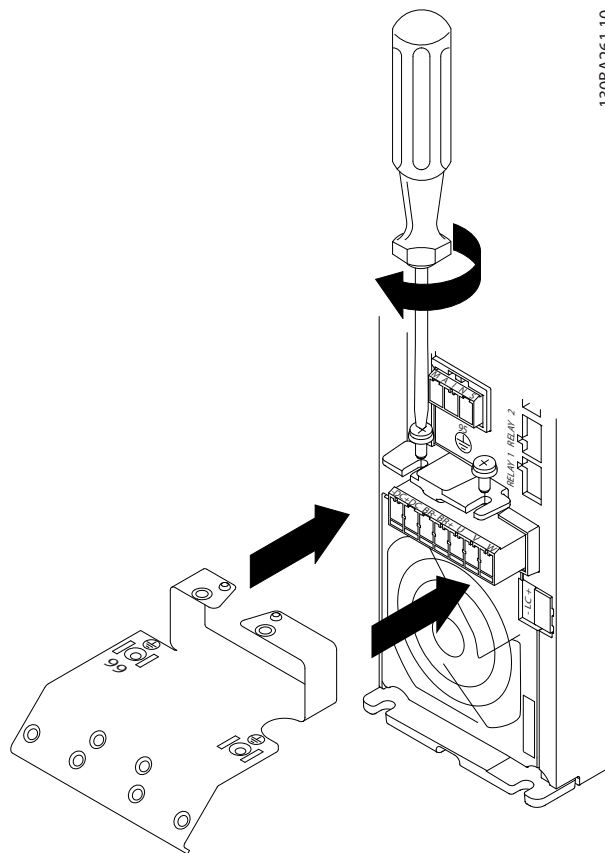

Figure 3.8 Mounting the Mounting Plate
1. Slide the mounting plate into place and tighten the two screws, as shown in Figure 3.8.